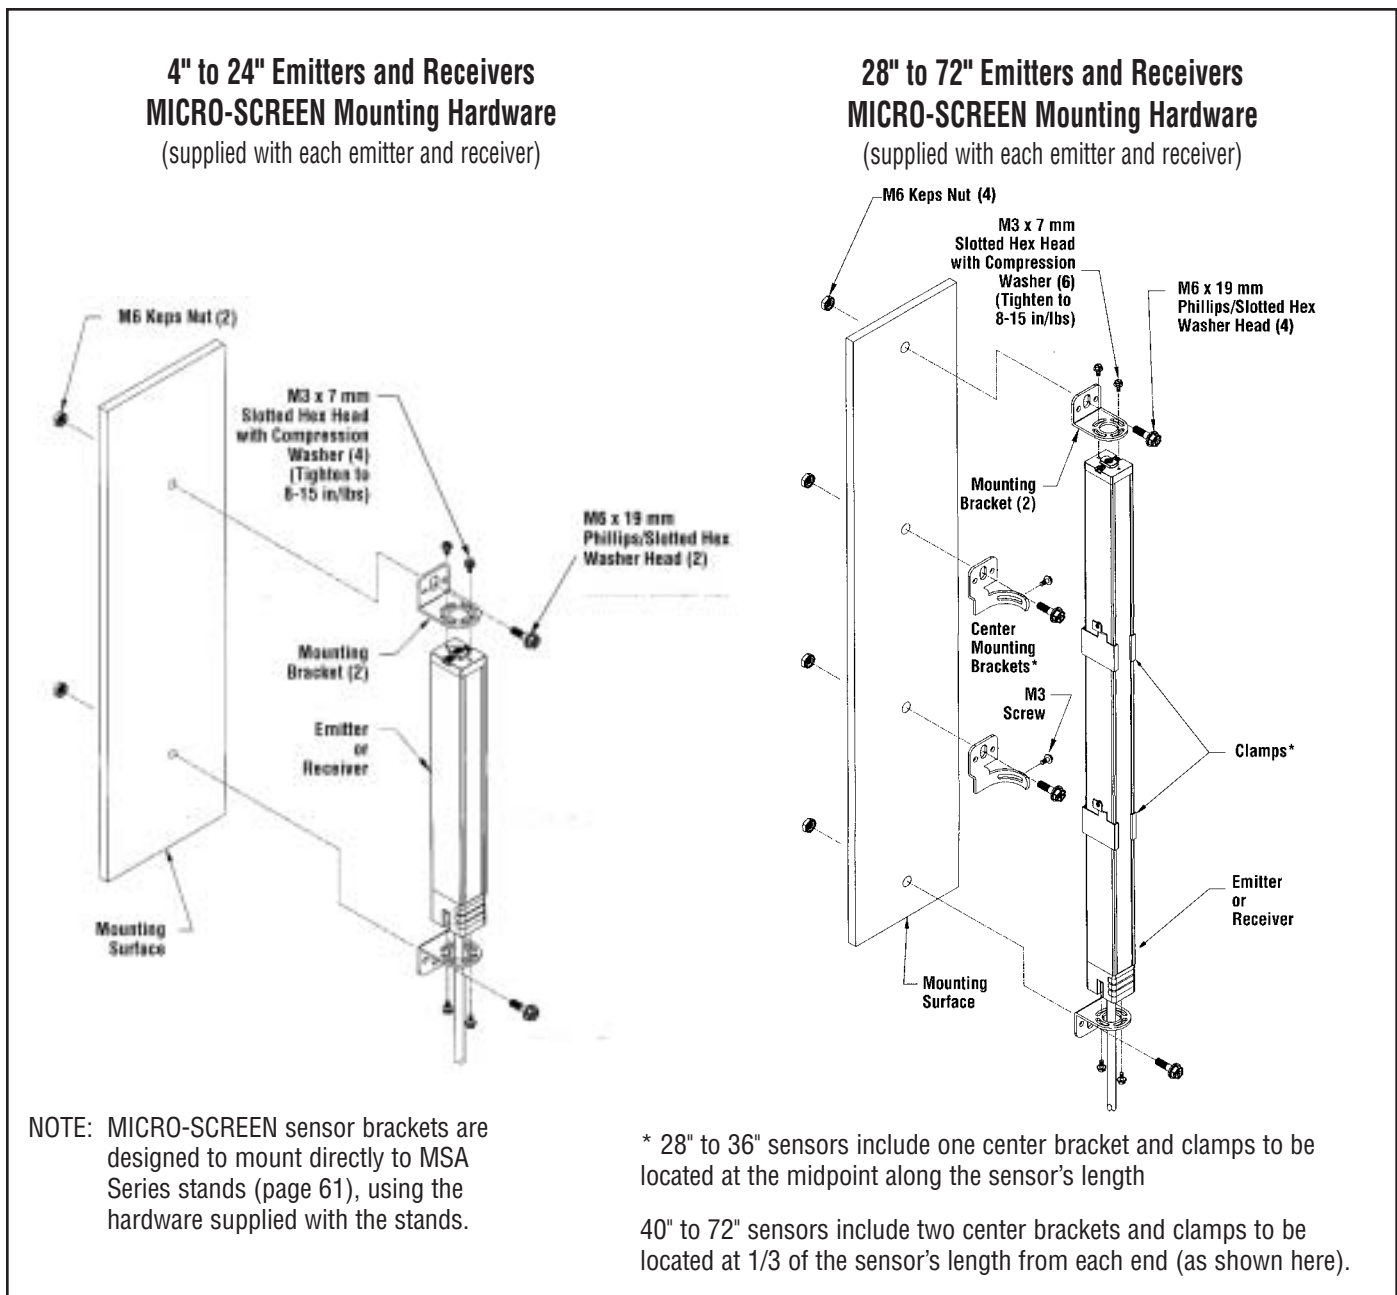

Figure 14. Emitter and receiver mounting
From a common point of reference, make measurements to locate the emitter and receiver in the same plane with their midpoints directly opposite each other. **Important: The connector ends of both sensors must point in the same direction (see drawings and WARNING, page 18).** Mount the emitter and receiver brackets using M6 bolts and Keps nuts (all supplied); see Figure 14.
Center mounting brackets must be used with longer length sensors to provide sensor stability. Sensor lengths from 40" to 48" are supplied with one center bracket, which should be positioned at the center of the sensor's length. Sensor lengths from 56" to 72" are supplied with two center brackets, which should be positioned 1/3 of the sensor's length from each sensor end (see Figure 14). Refer to Figure 14 for the following steps.
- 2) Compress the foam spacer and slide the clamp along the length of the sensor housing to align the clamp with the center mounting bracket as shown in Figure 14. Three separate mounting holes are provided on the clamp to allow for all possible mounting configurations.